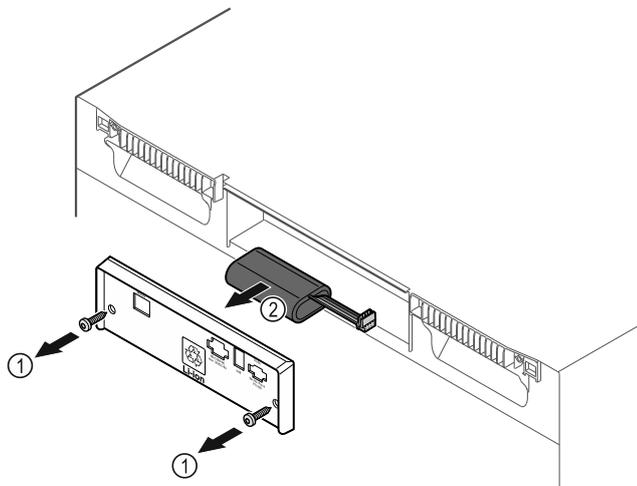

Fig. 174
- ▶ Unscrew screws and remove cover from the back of the appliance Fig. 174 (1).
- ▶ Disconnect and remove battery Fig. 174 (2).